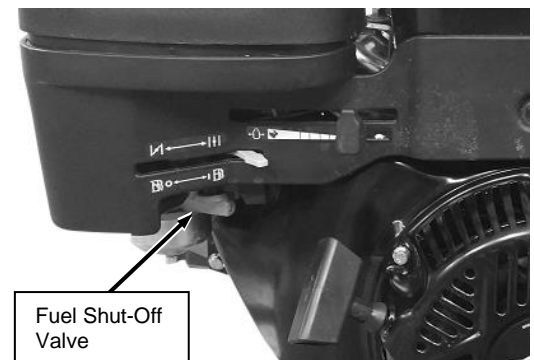

Figure 23
3. Ensure that the Fuel Shut-Off Valve is in the “ON” position (**Figure 23**).